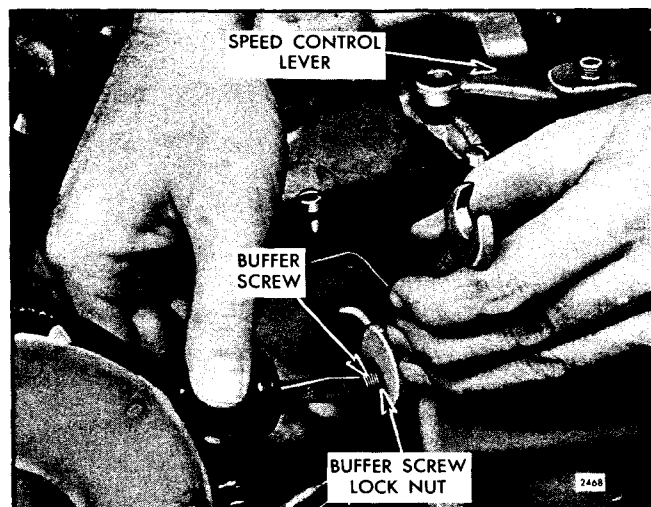

Fig. 9 - Adjusting Buffer Screw
1. With the engine running at normal operating temperature, turn the buffer screw (Fig. 9) in so that it contacts the differential lever as lightly as possible and still eliminates engine roll.